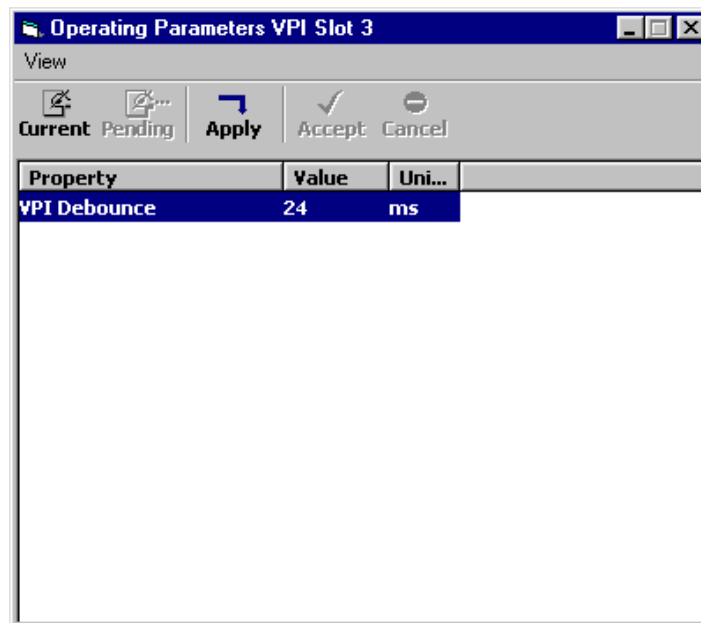

Figure 2-13
1. In the **GEO UCN Calculator** window, right-click on the header for any module (slot number) that has user-configurable Configuration Parameters or Operating parameters (see figure 2-13 for a typical **Operating Parameters** window (e.g., VPI Slot 3).